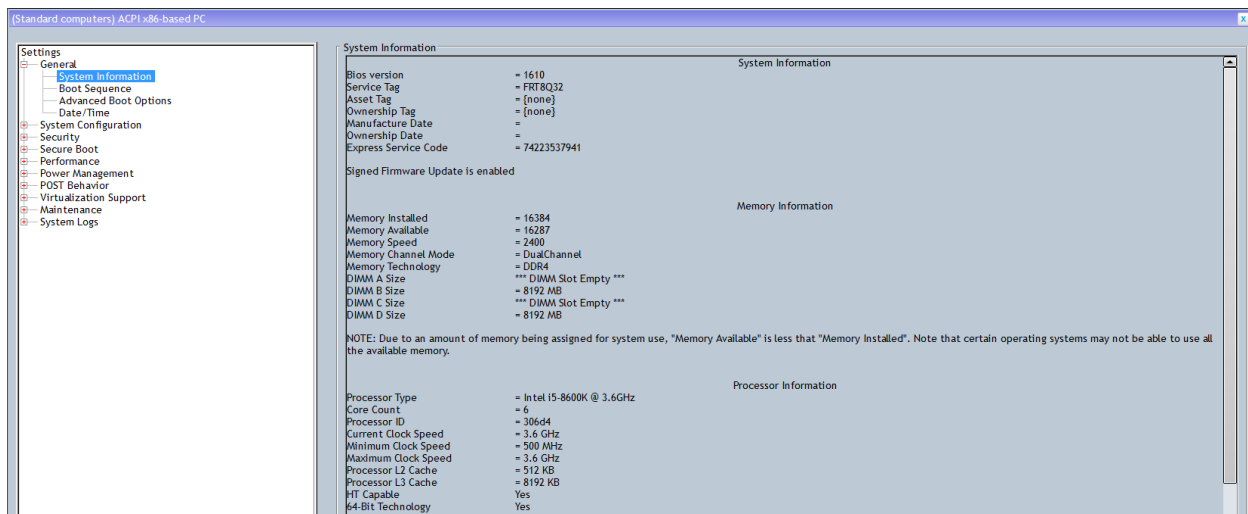
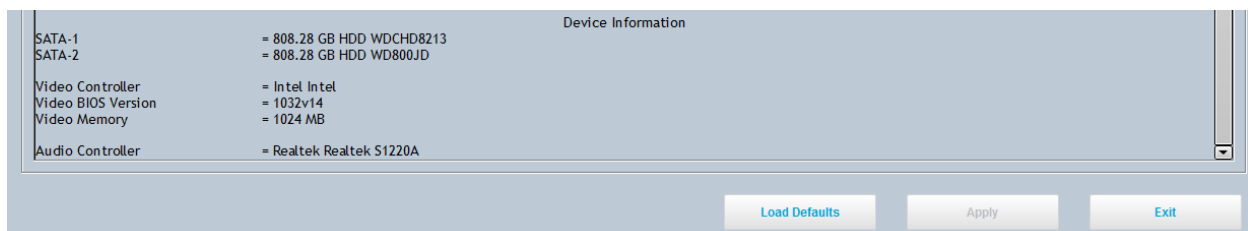

FIGURE 66: TESTOUT CORP. (2020, JANUARY 14). TESTOUT PC PRO (SECTION 14.1). RETRIEVED FROM [HTTP://WWW.TESTOUT.COM](http://www.testout.com)
FIGURE 67: TESTOUT CORP. (2020, JANUARY 14). TESTOUT PC PRO (SECTION 14.1). RETRIEVED FROM [HTTP://WWW.TESTOUT.COM](http://www.testout.com)
10.2.1. Check System Information by going to Settings > General > System Information. You must ensure that each system component has been installed correctly by looking through this section and checking for the parts you installed. Compare your System Information with Fig. 66 and Fig. 67 below, which have accurate information. **If something is missing from your System Information page, shut the system off, unplug the power supply and open the PC case again to ensure that you have the component properly installed.**